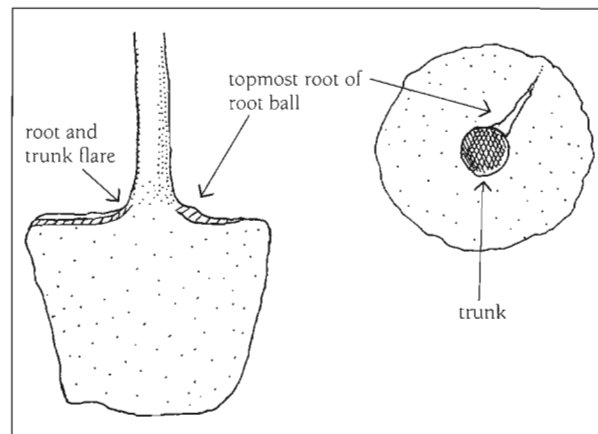

Figure 1. Flaring of the tree trunk must be evident at or very near the soil surface, and roots should radiate outward.
- ◆ For trees whose **caliper\*** is 2 inches or greater, look for good trunk taper and the beginning of a root flare at or just below the soil surface (Figure 1). This indicates the development of strong lateral roots. **Root collars** can easily become buried or the soil can be piled up around them during cultivation or digging in the nursery. This makes it difficult to plant at the proper depth, and undesirable **adventitious** roots sometimes can develop at the bottom of the stem.